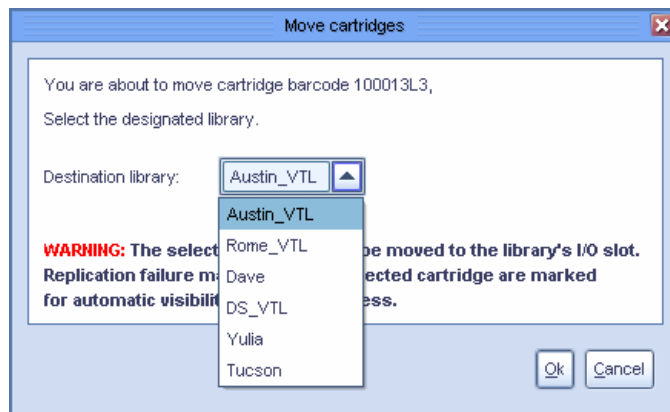

Figure 10-142 Select the destination library
8. The Move cartridges window opens. Select **Italy Account** for the destination library (Figure 10-142).